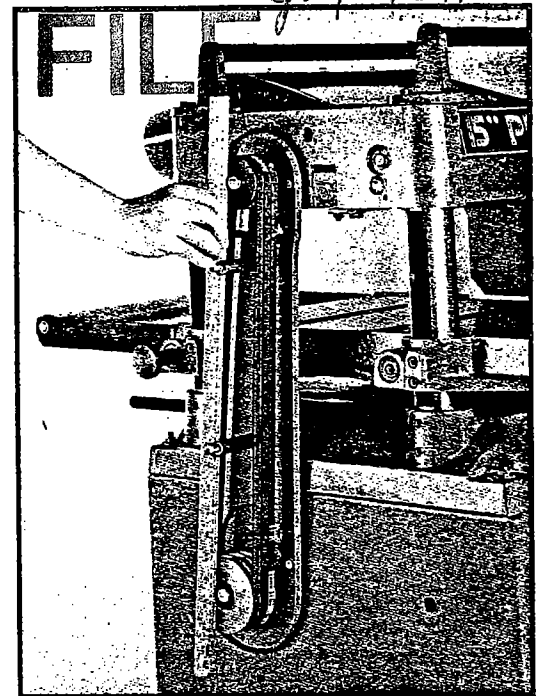

Fig. 11
3. Using a straight edge, align motor pulley (H) to cutter-head pulley (M), As shown in Fig. 11. by sliding motor on motor plate, then tighten motor mounting bolts tightly.